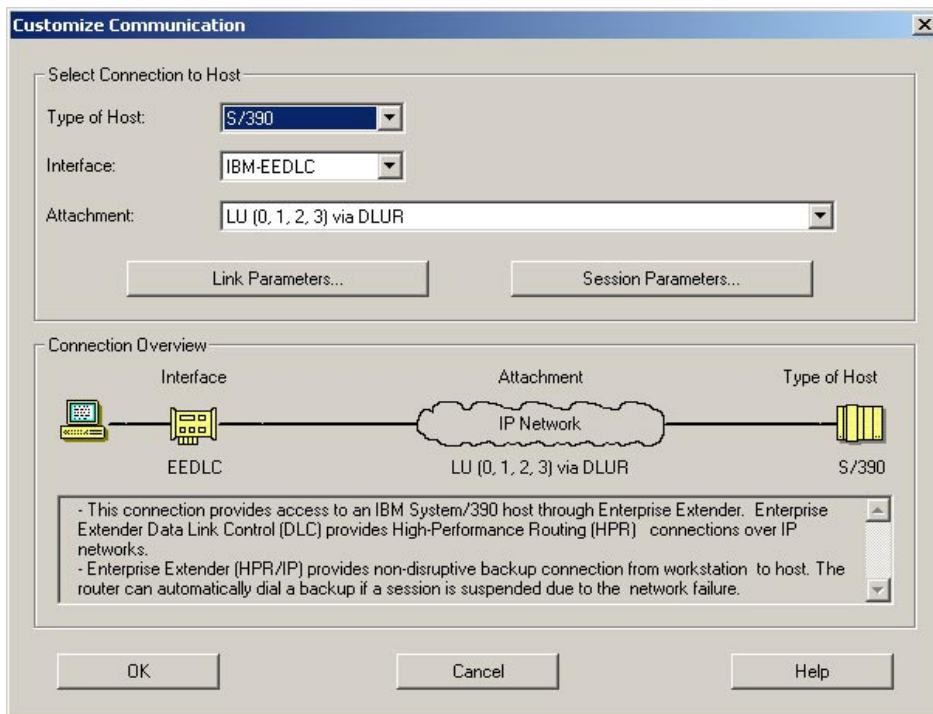

Figure 10-4 Customize Communication step 1
1. We selected **S/390** on Type of Host; **IBM-EEDLC** on Interface; **LU(0,1,2,3) via DLUR** for the Attachment (APPN can also be used). Then we clicked **Link Parameter** (see Figure 10-4 on page 152).